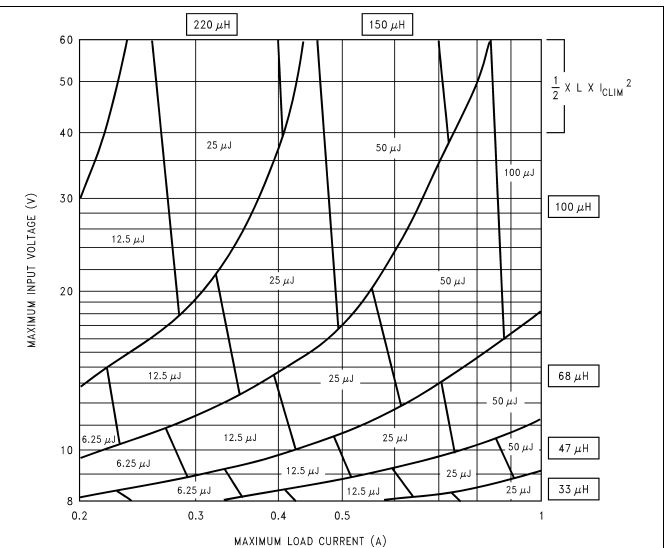

Figure 34. LM2590HV-5.0-AQ
- A first pass inductor selection is based upon *Inductance and rated max load current*. Choose an inductor with the Inductance value indicated by the nomograph (Figure 34) and a current rating equal to the maximum load current. We therefore quick-select a 100- $\mu H$ , 0.8-A inductor (designed for 150-kHz operation) for this application.
- Confirm that it is rated to handle 50  $\mu J$  (see Figure 34) by either estimating the peak current or by a detailed calculation as shown in AN-1197 Selecting Inductors for Buck Converters, and also that the losses are acceptable.
- A first pass inductor selection is based upon *Inductance and the switch current limit*. Choose an inductor with the Inductance value indicated by the nomograph (Figure 34) and a current rating equal to  $I_{CLIM}$ . Therefore quick-select a 10- $\mu H$ , 3-A inductor (designed for 150-kHz operation) for this application.